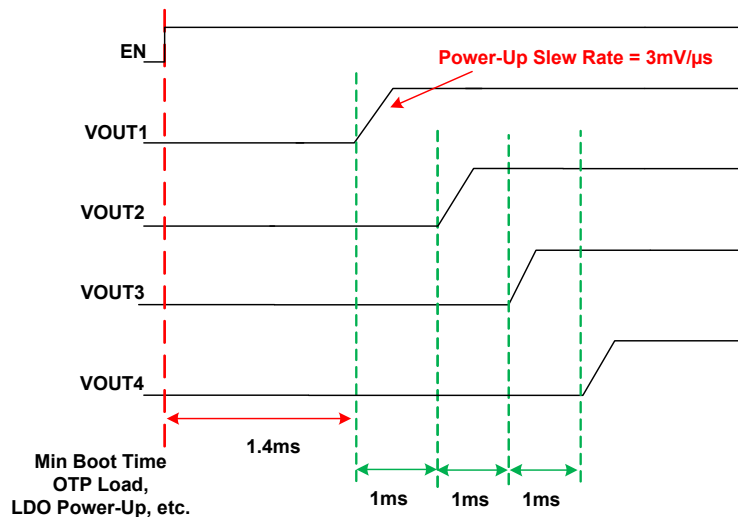

Figure 33. Master Chip Enable Power-Up Example
Figure 33 provides an example of power-up configuration. The master chip enable pin (EN) transitions from 0 to 1 and OTP is loaded for 1.4ms. After initial 1.4ms boot interval, the buck output start-up sequence begins. BUCK1_EN_DLY is set for 0ms, BUCK2_EN_DLY is set for 1ms, BUCK3_EN_DLY is set for 2ms, and BUCK3_EN_DLY is set for 3ms.